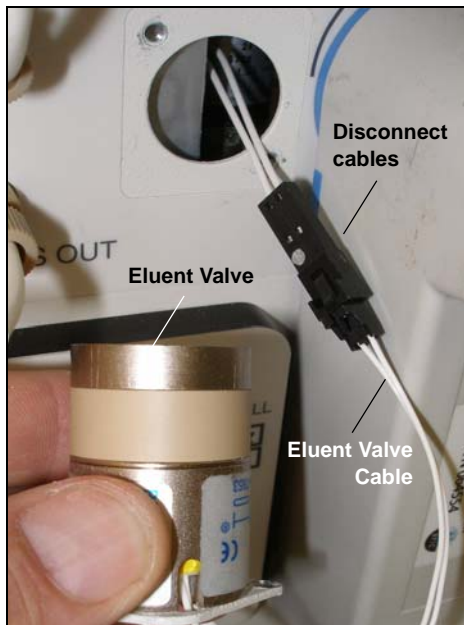

Figure 5-27. Eluent Valve Cable
- The cable is connected to a matching cable inside the Dionex ICS-2100. Continue pulling until the connectors for the two cables are outside the panel (see Figure 5-27). Disconnect the cables.